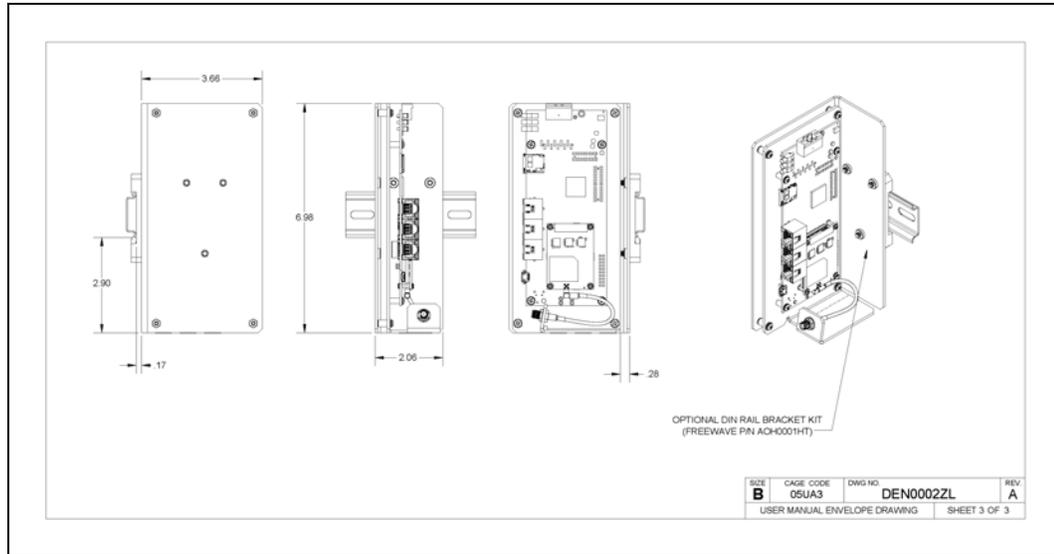

Figure 239: Z9-P Attached to a DIN Rail with the Power Connection on Top
- b. Mount the **Z9-P** to the 35mm DIN rail using the rail slide on the enclosure as shown in Figure 239.